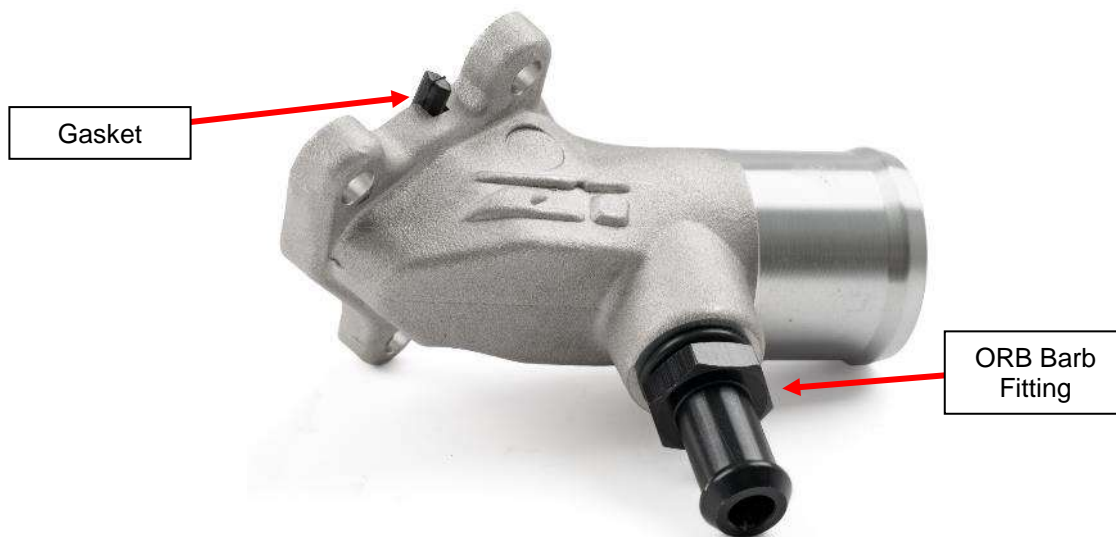

Figure 6
8. Locate the Z1 Aluminum Water Neck, ORB Barb Fitting and Gasket. Install the ORB Fitting and Gasket into the Water Neck. *Figure 6.*